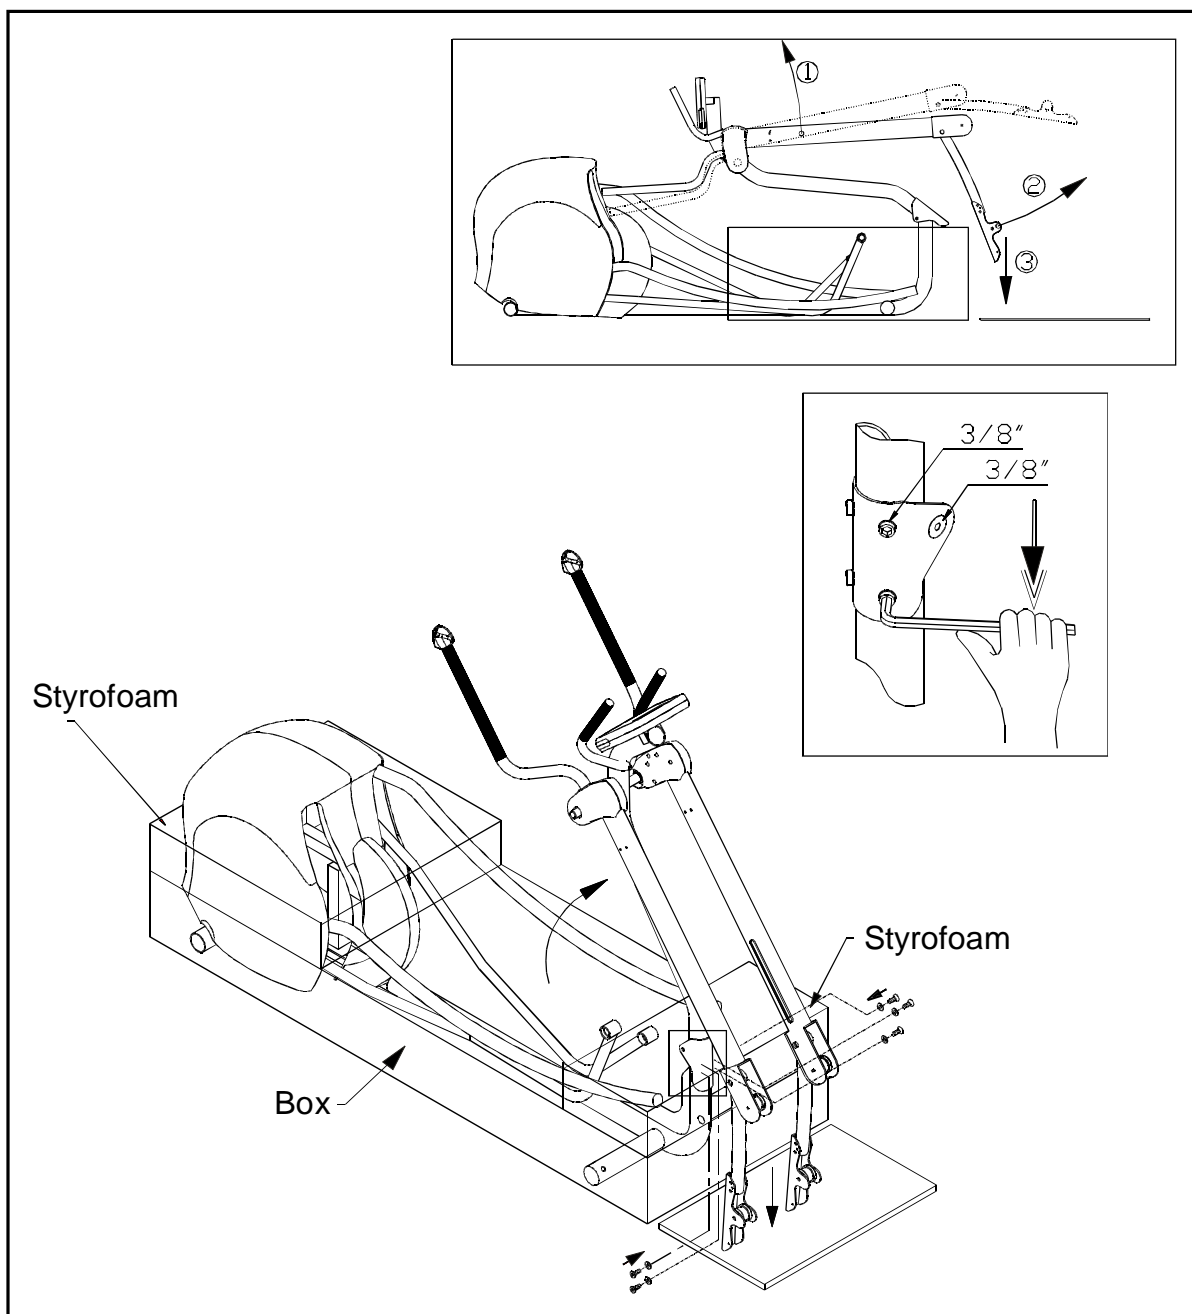

Fig.1
1. Remove only the upper box and Styrofoam. (see Fig 1)
2. Raise the main post into upright position, and secure it with 3/8" bolts by wrench provided. (see Fig. 1)